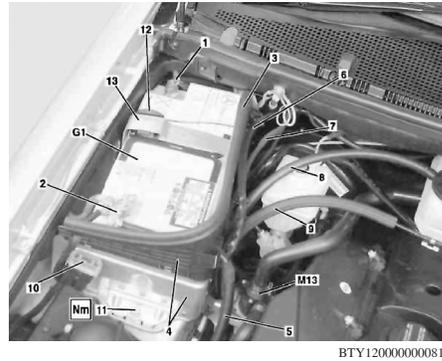

Fig. 2 Battery removal
5. Remove protective shield at positive pole of battery, and remove all lines attached to positive cable (2), **Fig. 2**.
6. Disconnect positive line (2) from battery (G1), **Fig. 2**.
7. Remove seal (3) at shield (4), **Fig. 2**.
9. Slacken retaining clip at side of shield (4), guide all lines through shield, and lay to one side, **Fig. 2**.
10. Detach coolant circulation pump (M13) from shield, if required, **Fig. 2**.
12. Detach overflow hose (8) and control cable (9) at shield, **Fig. 2**.
13. Detach fuse holder for suction fan (10) at front of shield, and remove line from shield if equipped, **Fig. 2**.
14. Remove bolt (11) at shield, **Fig. 2**.
15. Remove clamping wedge (12) at retaining bracket, **Fig. 2**.
16. Detach retaining bracket (13) by pressing downward, **Fig. 2**.
17. Detach and remove shield (4), turn shield forward, and reset in order to loosen front retaining lugs, **Fig. 2**.
2. Attach and install shield (4), **Fig. 2**.
10. Guide all lines through shield, and tighten retaining clip at side of shield (4), **Fig. 2**.
12. Install seal (3) at shield (4), **Fig. 2**.